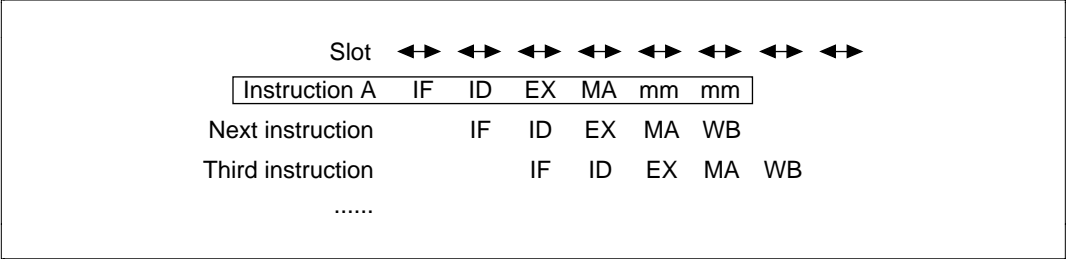

Figure 10-31 Multiplication Instruction Pipeline
The pipeline has six stages: IF, ID, EX, MA, mm, and mm (figure 10-31). The MA accesses the multiplier. The mm indicates that the multiplier is operating. The mm operates for two cycles after the MA ends, regardless of the slot. The MA of the MULS.W instruction, if it contends with IF, operates as described in section 10.2.1, Contention between Instruction Fetch (IF) and Memory Access (MA).